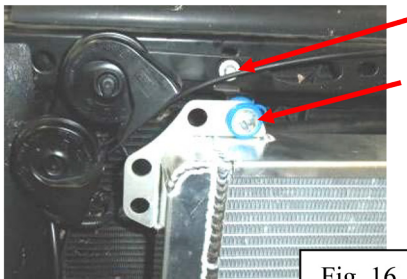

Fig. 16
16. Install the upper passenger heat exchanger bracket and the horn bracket using the existing bolt. Install the supplied 13mm bolt and washer to attach the heat exchanger to the bracket (Fig. 16).